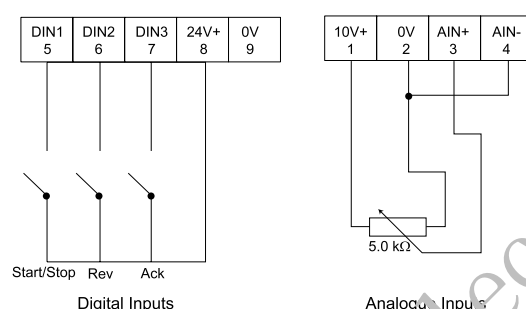

Figure 3-2 Basic operation with SDP
- The terminals are connected like shown in Figure 3-2